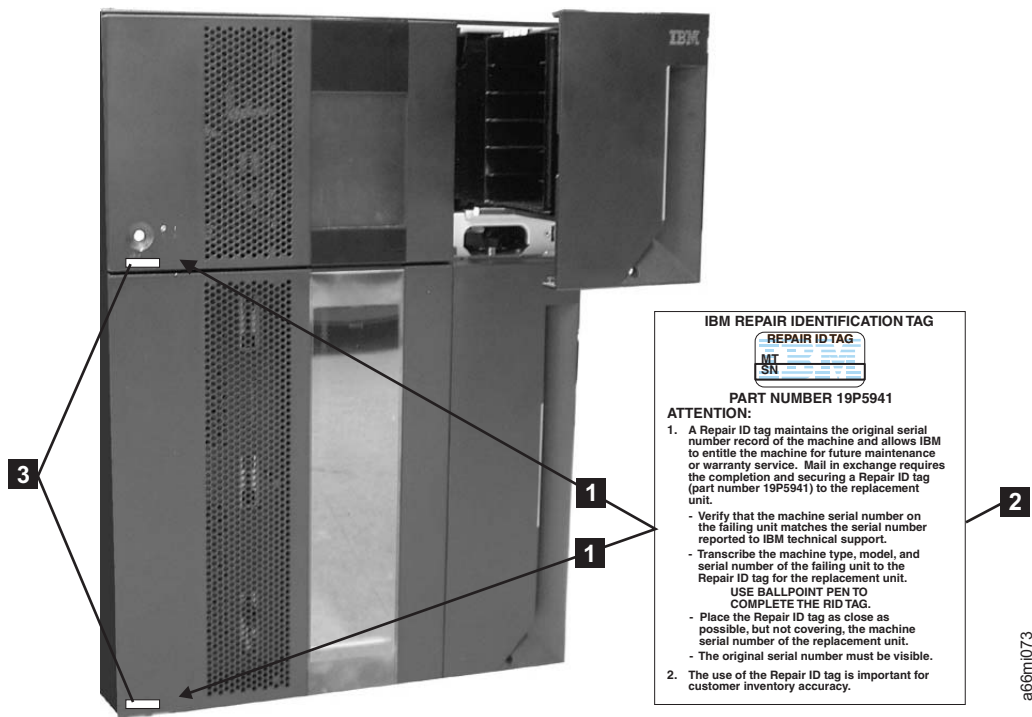

Figure 7-21. RID tag placement
1. Copy the serial number from the label in the lower left corner of the old enclosure onto the RID tag (**2** in Figure 7-21).
2. Place the RID tag to the right of, but not covering, the serial number label located in the lower left corner of the new library enclosure (**1** in Figure 7-21).